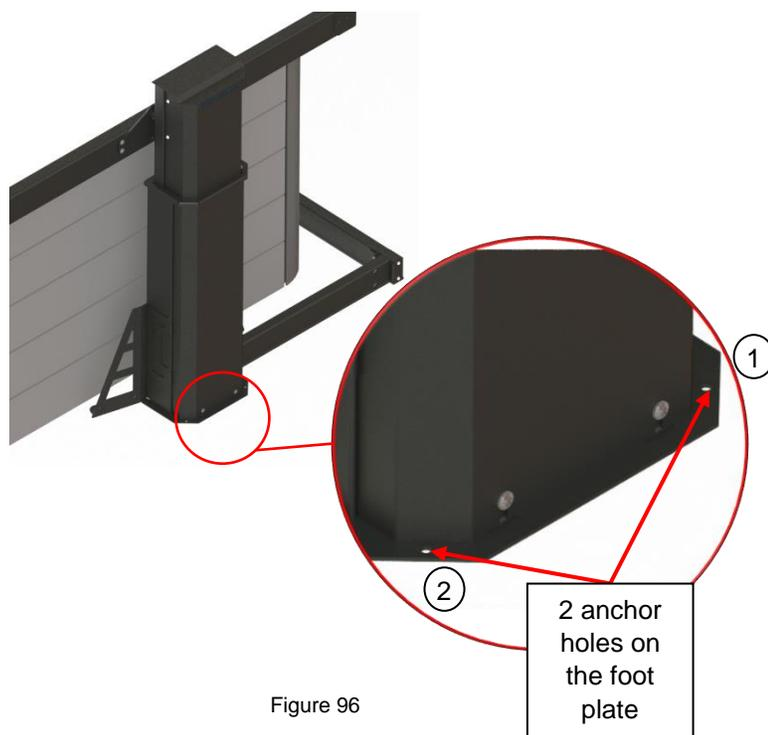

Figure 96
**Note:** As shown in Figures 96, 97 and 98, there are two anchor points on each foot plate, four anchor points on the L brackets for each post assembly and one anchor point per U-frames' corner brackets.